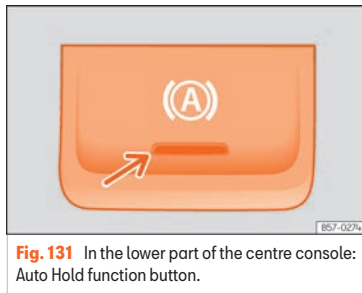

Fig. 131 In the lower part of the centre console: Auto Hold function button.
- (P) When the Auto-Hold function is active, the control lamp on the instrument cluster lights up green. The control light of the (A) >>> Fig. 131 button remains on when the Auto Hold function is connected.